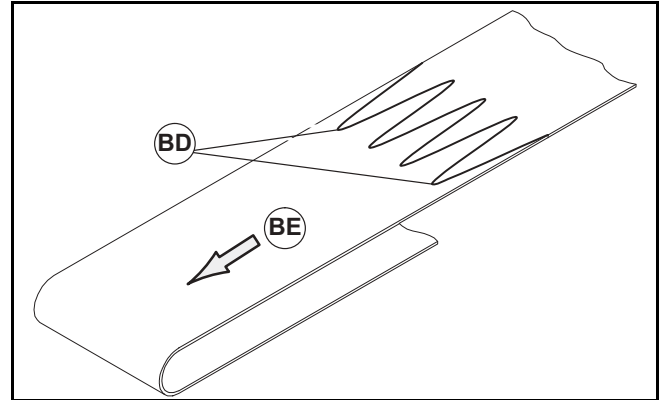
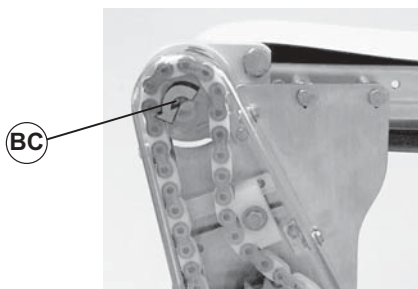

Figure 29
Figure 32
1. Orient conveyor belt so the splice leading fingers (Figure 29, item BD) point in the direction of belt travel (BE).
On a flat belt conveyor, the wiper is installed on discharge end. Belt travel direction is identified by an arrow decal on the drive cover (Figure 32, item BC).
1. Orient conveyor belt so that the splice leading fingers (Figure 29, item BD) point in the direction of belt travel (BE) as identified by the label (Figure 32, item BC).